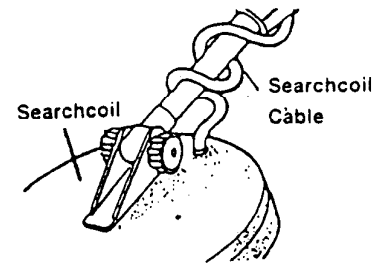

Figure 3
5. Wind the search coil cable around the stem. Make sure you leave enough slack in the cable to allow for adjustment when you are using the Metal Detector on uneven ground (see Figure 3).